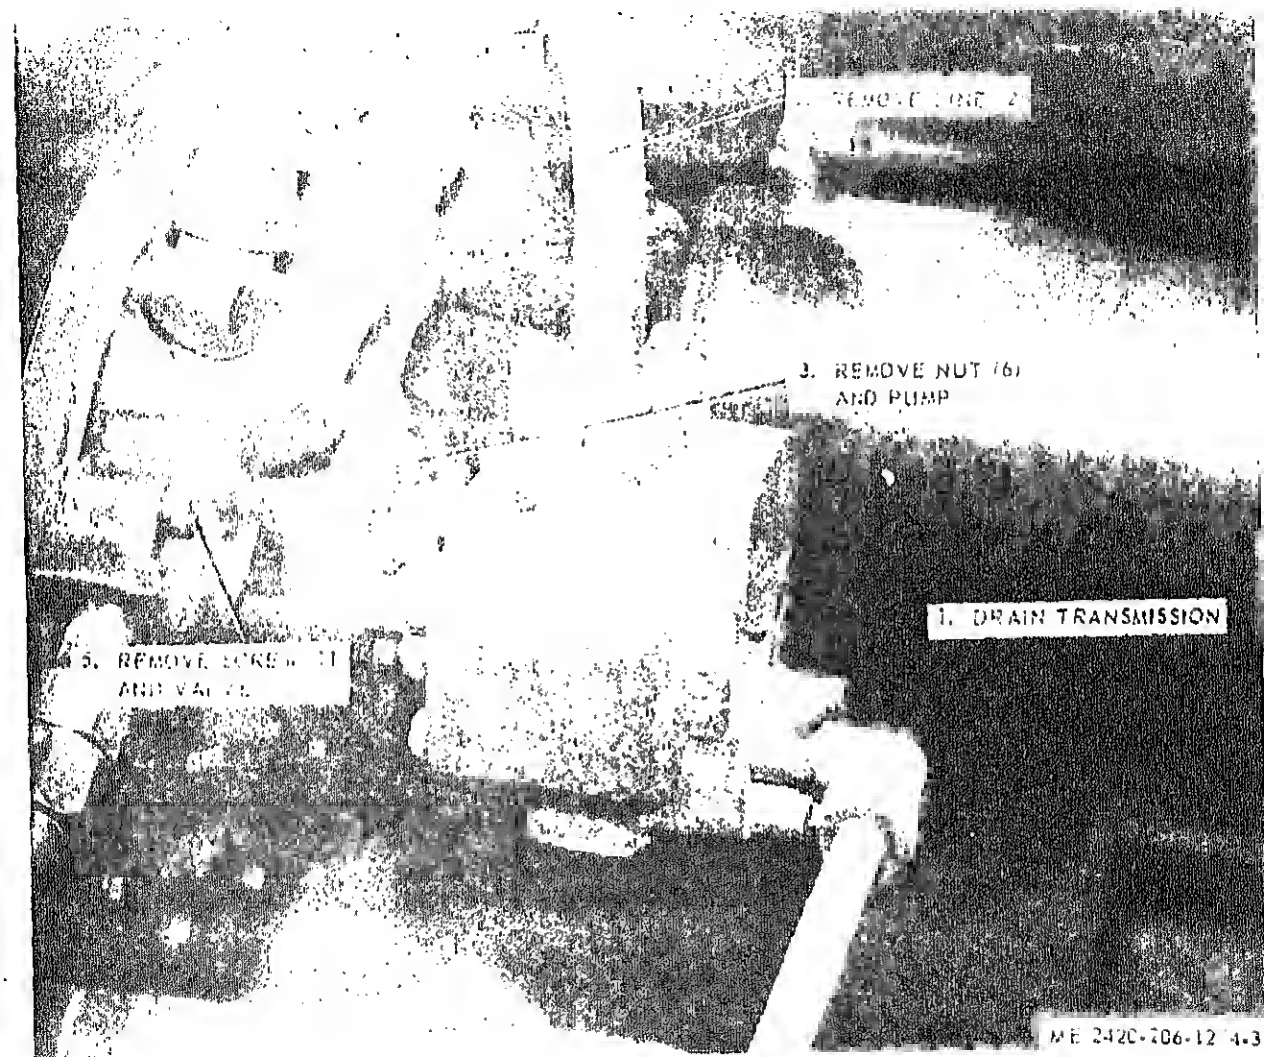

Figure 4-35. Push start pump and valve, removal and installation.
- (1) Install hydraulic filter base on top of removal, *a* above.
- (2) Install elements (para 3-7).
a. *Removal.* Remove pump and valve as illustrated in figure 4-35.
- (1) Clean exterior and dry thoroughly.
- (2) Inspect for cracks, breaks, and other dam-
c. *Installation.* Install valve and pump as illustrated in figure 4-35. Replace push start pump gasket.